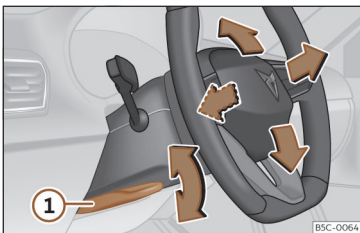

Fig. 97 Lever in the lower left side of the steering column.
- Pull lever >>> **Fig. 97** ① down, move the steering wheel to the desired position and lift the lever back up until it locks.
- After adjusting the steering column, push lever >>> **Fig. 97** ① firmly upwards so that the steering wheel does not accidentally change position while driving.